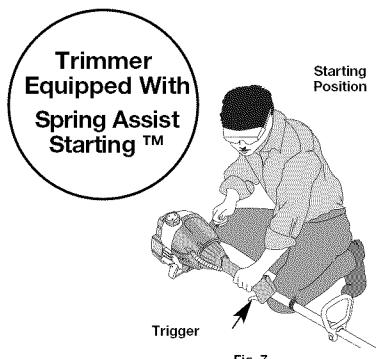

Fig. 7
WARNING: Avoid accidental starting. Make sure you are in the starting position when pulling the starter rope (Fig. 7). To avoid serious injury, the operator and unit must be in a stable position while starting.
- Crouch in the starting position (Fig. 7), squeeze the trigger, and pull the starter rope with a **controlled and steady motion** 5 times.